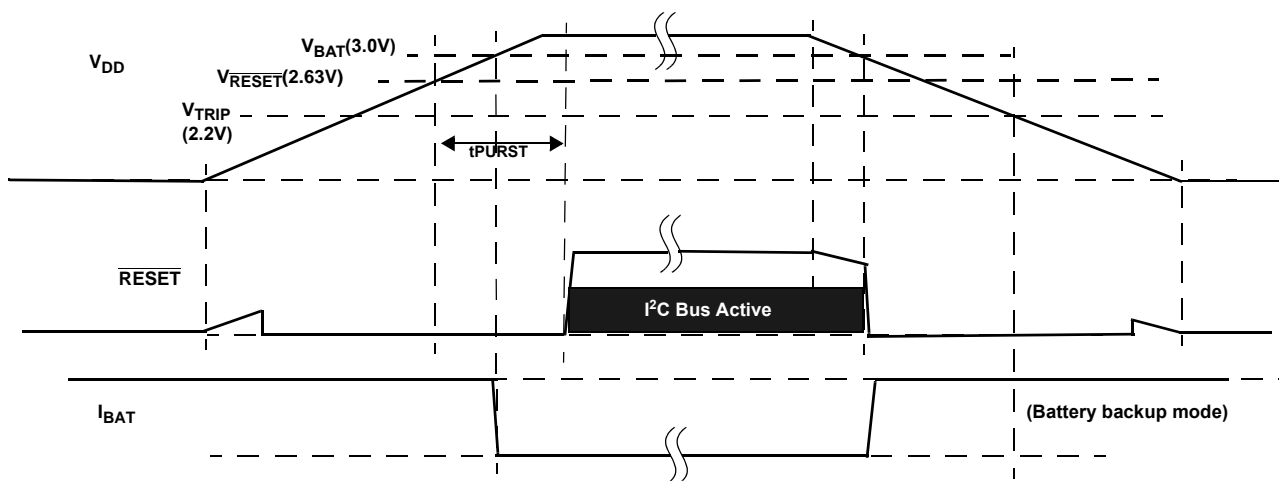

FIGURE 30. RESET OPERATION IN MODE D
- Mode D - In this mode the selection bits indicate switchover to battery backup at VDD < VBAT, and no I2C communications in battery backup. This mode is unique in that there is I2C communication as long as VDD is higher than VRESET or VBAT, whichever is greater. This mode is the safest for guaranteeing I2C communications only when there is a Valid VDD. (see Figure 30)